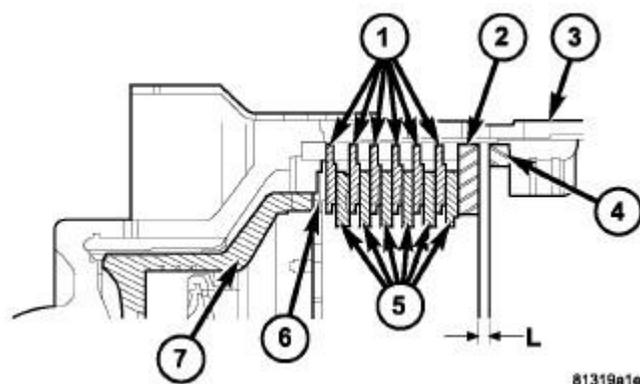

Fig. 140: Input Clutch K1 Stack-Up - Single Sided Discs
15. For transmissions using single sided friction discs, use a feeler gauge to determine the play "L" at three points between the snap-ring (4) and outer multiple-disc (2). Refer to **Fig. 140**.
16. During the measurement the snap-ring (4) must contact the upper bearing surface of the groove in the outer multiple-disc carrier (3).
18. Adjust with snap-ring (4), if necessary. Snap-rings are available in thicknesses of 2.6 mm (0.102 in.), 2.9 mm (0.114 in.), 3.2 mm (0.126 in.), 3.5 mm (0.138 in.), 3.8 mm (0.150 in.), and 4.1 mm (0.162 in.).
19. Insert front freewheeling clutch F1 (2) and fit snap-ring (3). The freewheeling clutch F1 (2) must be installed in the direction of the arrow.